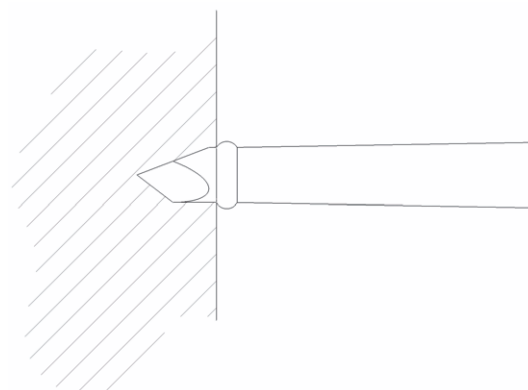

Fig. 1 Awl fully inserted
- ▶ Never insert the awl beyond the raised edge, see Fig 1.